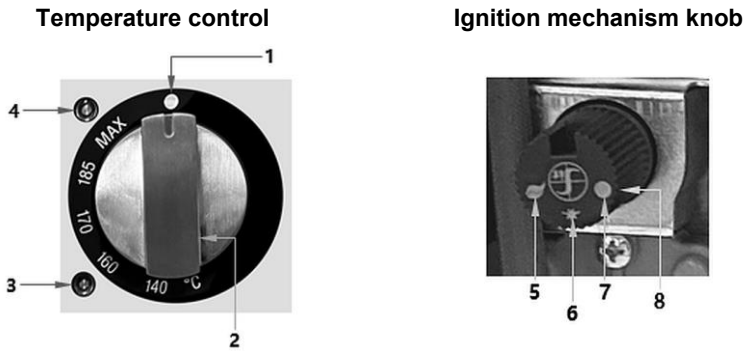

Fig. 7
1. To switch on the appliance, turn the temperature control knob (2, Fig. 7) clockwise by one mark ().
1. Turn the knob on the ignition mechanism (8) to the main burner ignition position  (5).
2. Set the temperature control (2, Fig. 7) to the desired temperature setting in the range 140 °C - 185 °C - MAX.
1. Turn the temperature control (2, Fig. 7) to the OFF position "O" (1).
2. Turn the ignition mechanism knob (8) to the pilot flame ignition position  (6).
2. Switch off the deep fryer completely by turning the temperature control (2, Fig. 7) to the OFF position "O" (1) and turning the ignition mechanism knob (8) to the OFF position "O" (7).